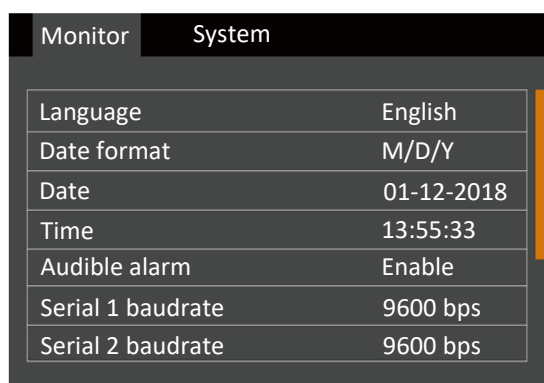

Figure 5-22 Monitor Interface
1. Press the key to move the cursor to the 'Monitor' interface, see Figure 5-22.